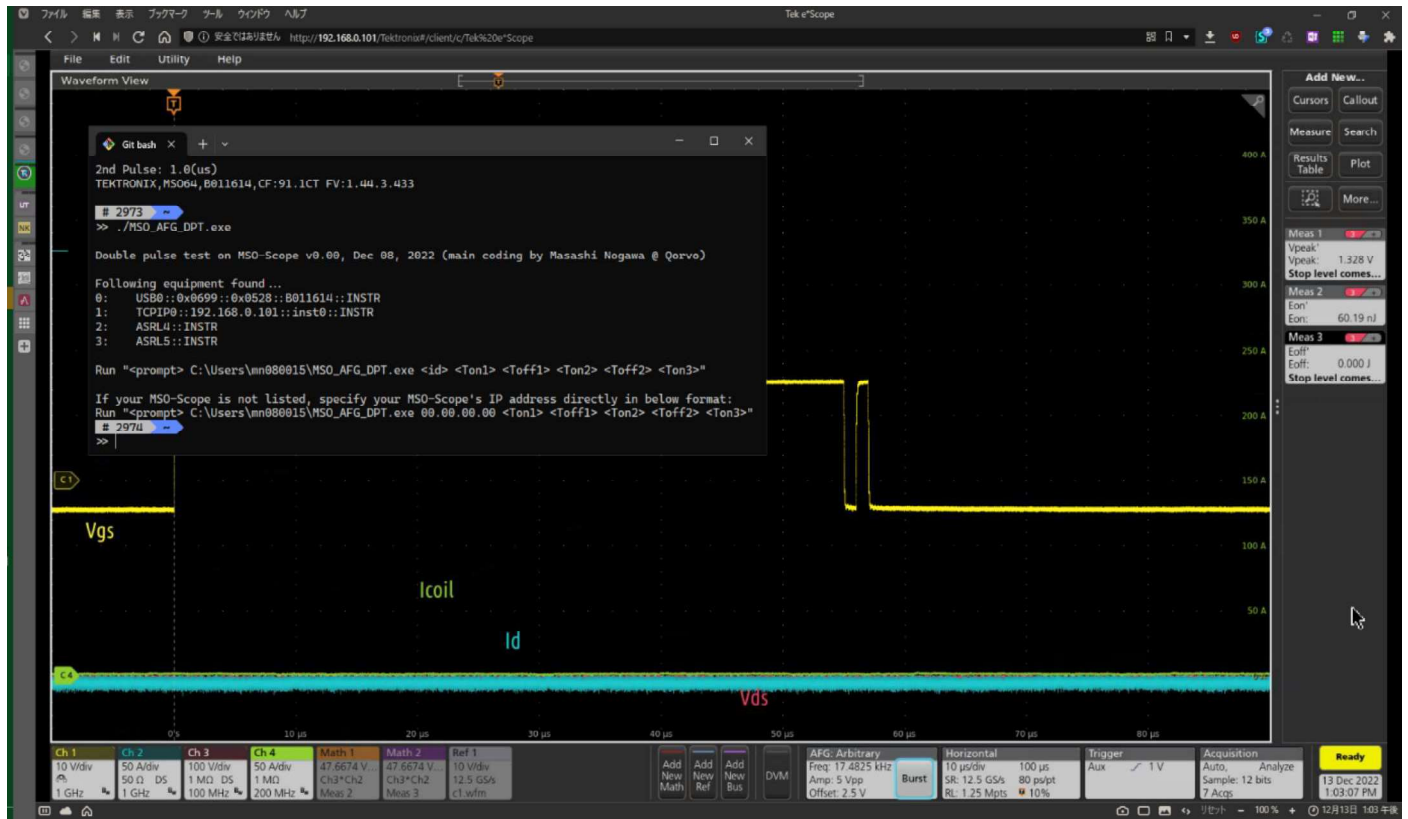

Figure 7: When run without parameters, the program lists the equipment identified by PyVISA.
By running the program without any parameters / arguments, it lists all the equipment visible to your PC, as shown in Figure 7.
- "0": Selects the USB interface of ID "0", from **Figure 7**
The target oscilloscope will be identified by the program when it is on a local network. In this example setup, the program found the scope at ID = "1", as shown in **Figure 7**. However, if there are multiple routers in between the host PC and the target oscilloscope, the program will not find the scope. In this case the IP address must be specified to connect.